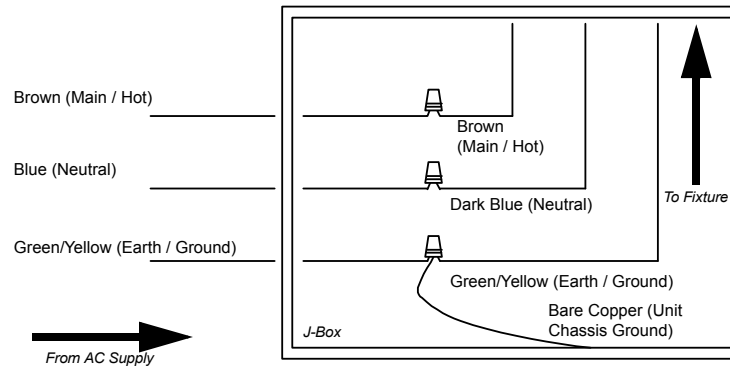

Figure 3: J-Box Electrical Connections - Other Than 120VAC Markets
- 1) Remove cover from Junction (J) Box.
- 2) At J-Box, remove the Thermal Protective Switch as shown in **Figure 3** and discard. It will not be used.
- 4) Connect AC input wiring as illustrated in **Figure 3**. Refer to "Power Requirements" on page 4 for power requirements.